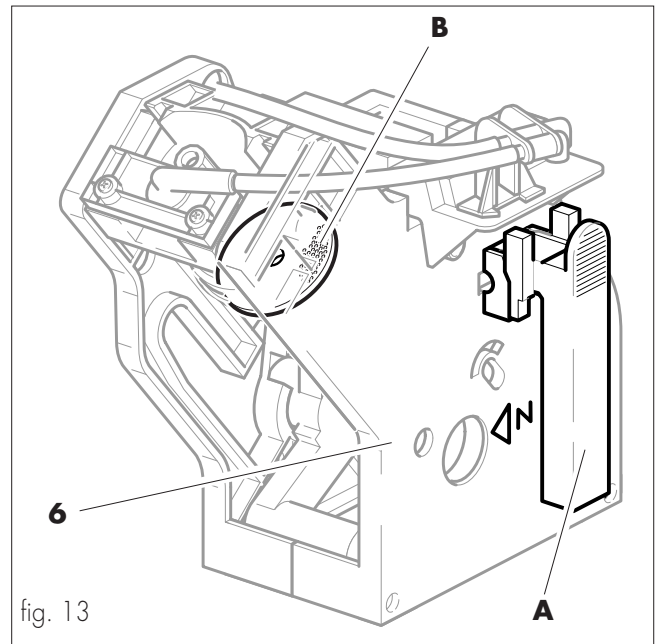

fig. 13
- Extract the brewing unit (ref. **6**, fig. 13) from machine through the handle provided (ref. **A**, fig. 13) and pressing the key marked with "PRESS".
- Lightly scratch the top filter (ref. **B**, fig. 13) with a plastic spoon or a small spatula.